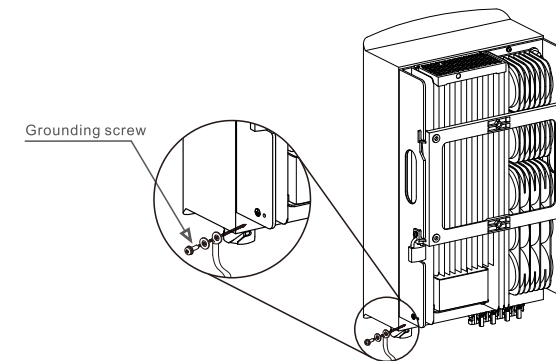

Figure 5.10 Fixed cable
- 6) Connect the grounding cable to the grounding point on the heat sink, and tighten the grounding screw, Torque is 3Nm (see figure 5.10).